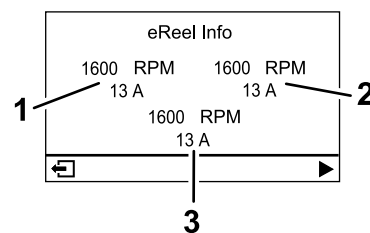

Figure 24
- **eReel motor screen** (Figure 24): shows the speed and current of each cutting-unit motor.